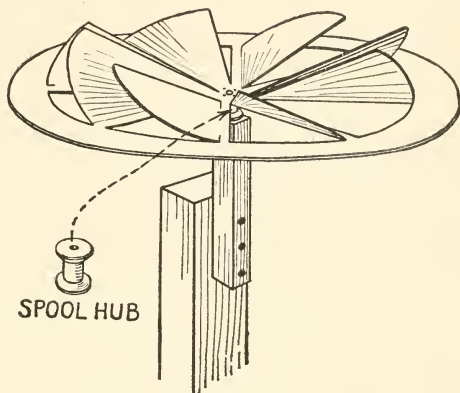

FIG. 4. — A Pinion-Wheel Windmill.
**The Pinion-Wheel Windmill** in Fig. 4 may be made of cardboard or tin. A circular piece 10 or 12 inches in diameter is required. After marking out the outer edge with a compass, describe an inner circle about 1 inch inside of it; then draw two lines through the center at right angles to each other, and another pair at an angle of 45 degrees to these.